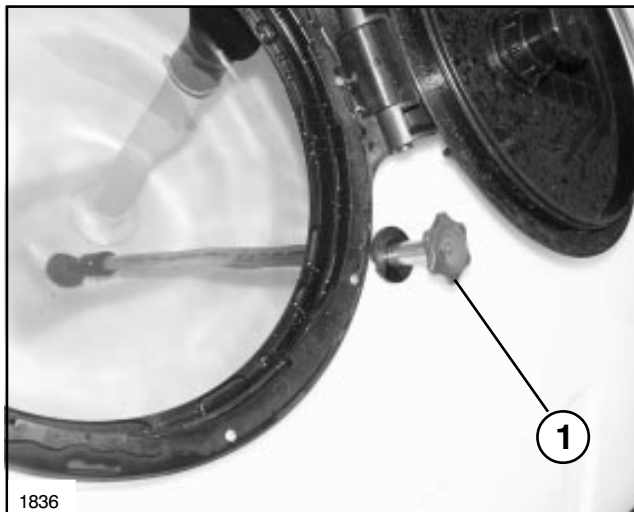

FIG. 7
15. DRAIN VALVE: Turn to open or close drain valve in the bottom of the tank. (See FIG. 7)